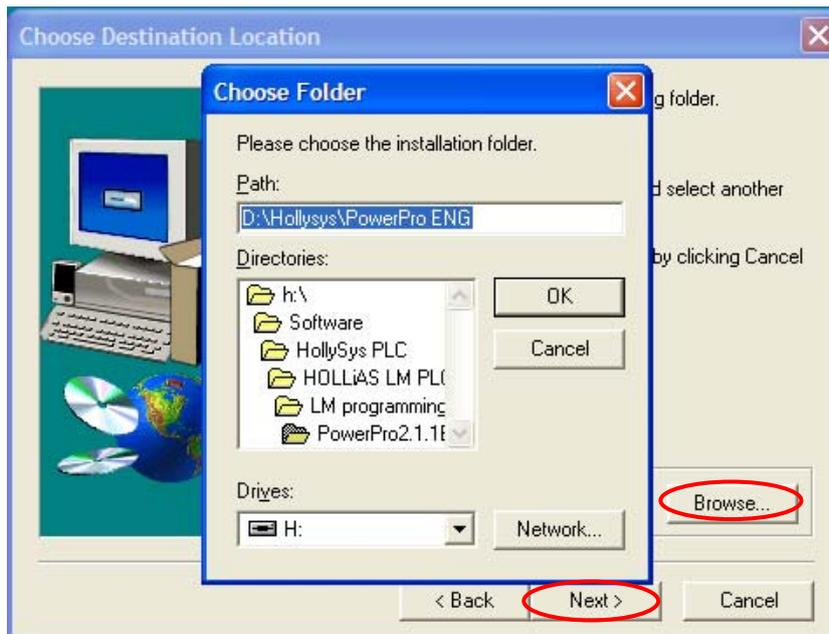

Figure 1-1-3 Installation Steps (3)
- Choose installation directory. The default directory is “D:\Hollysys\PowerPro” and it is recommended not to change the installation path. Click “Browse” to choose other directories. Click “Next” to start installation, as shown in figure 1-1-3.